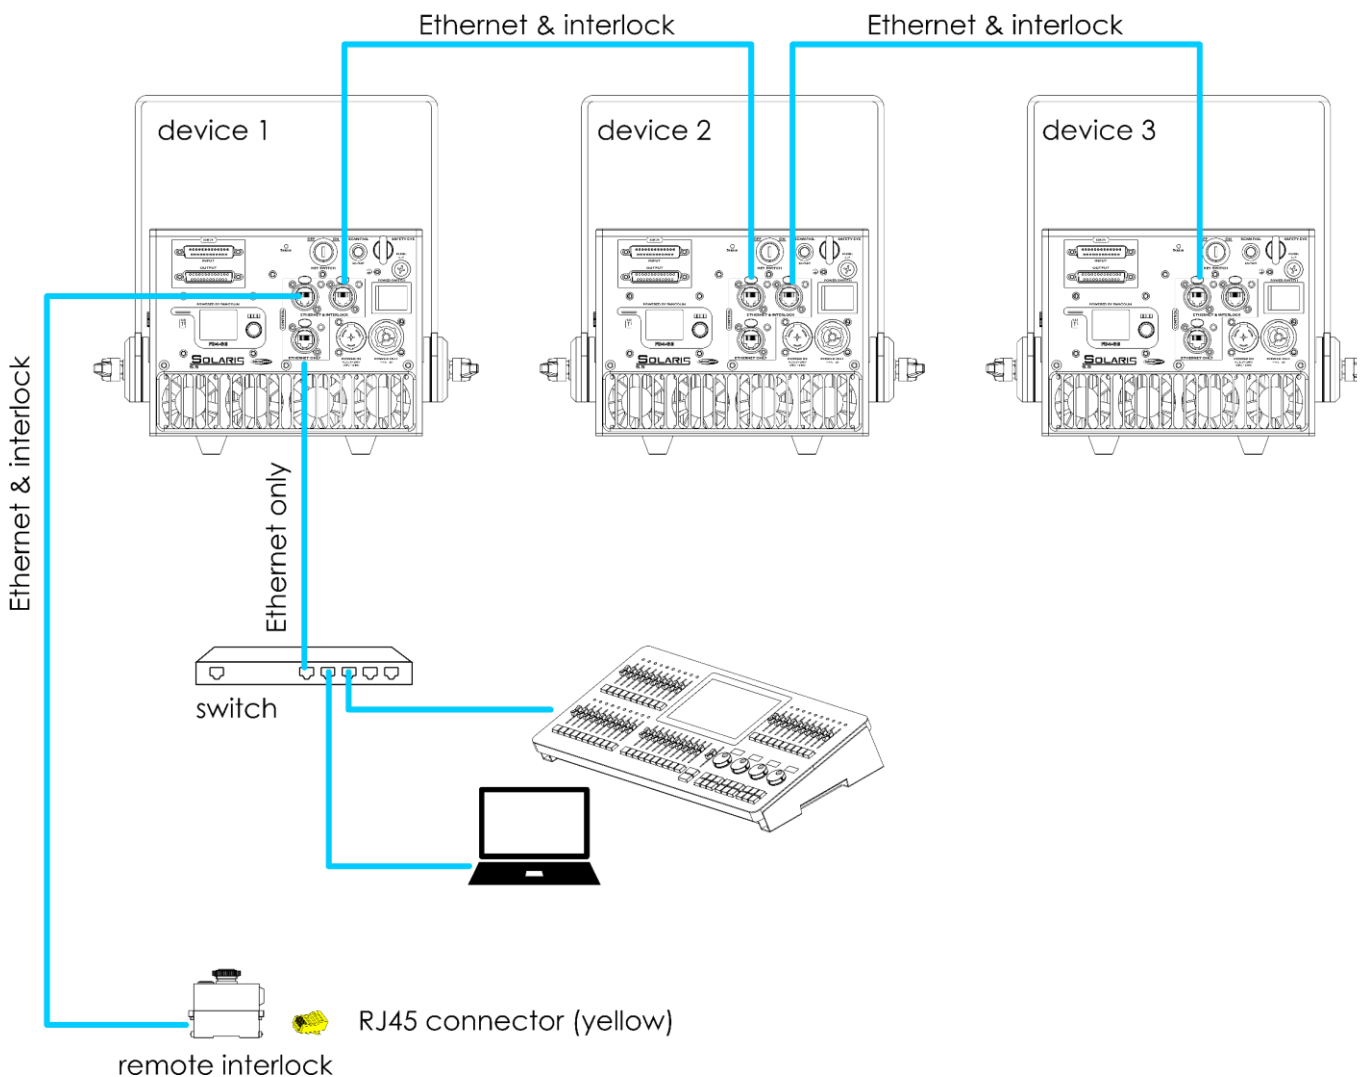

Fig. 14
Fig. 14 shows a typical setup with multiple device. Follow the steps below to connect the device to a computer/lighting controller, to the remote interlock, and to other devices:
- 01) Connect the RJ45 connector of the computer/lighting controller to the **Ethernet only RJ45 connector (24)** of the first device with a CAT-5/CAT-5E/CAT-6 cable. For larger setups you can use a switch between the first device in the setup and the computer/lighting controller.
- 02) Connect the **RJ45 connector (33)** of the remote interlock, supplied with the device, to one of the **Ethernet & interlock RJ45 connectors (13)/(16)** of the first device in the setup with a CAT-5/CAT-5E/CAT-6 cable.
- 03) Connect the other **Ethernet & interlock RJ45 connector (13)/(16)** of the first device to one of the **Ethernet & interlock RJ45 connectors (13)/(16)** of the second device in the setup with a CAT-5/CAT-5E/CAT-6 cable.
- 04) Repeat step 3 to connect all devices as shown in Fig. 14.
- 05) Insert the RJ45 connector (yellow), supplied with the device, into the **RJ45 connector (32)** of the remote interlock.